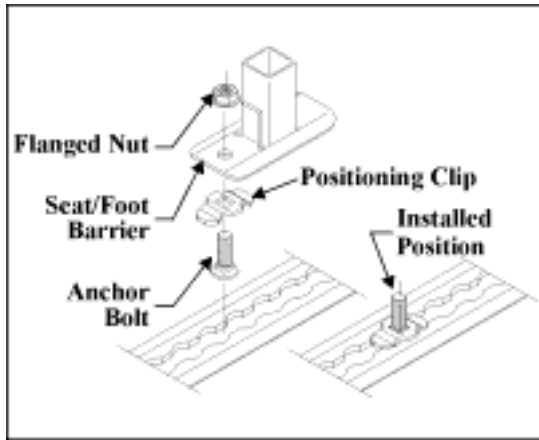

Figure 4—Track-Mounted Passenger Seat Removal and Installation
1. Remove flange nut from the anchor bolt at the seat/barrier foot. **Figure 4—Track Mounted Passenger Seat Removal and Installation.**